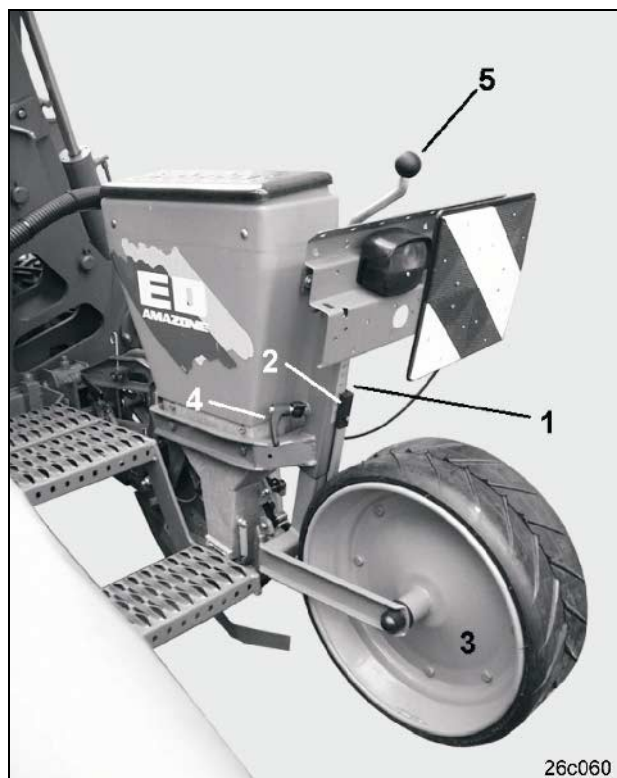

Fig. 72
The figures (0 to 110) on the scale (Fig. 72/1) represent the relevant placement depth. The placement depth setting is read off the reading edge (Fig. 72/2).
The placement depth is set with the aid of the pressure roller(s) (Fig. 72/3) as follows:
- Slacken the fixing bolt (Fig. 72/4)
- Turn the placement depth setting spindle (Fig. 72/5) and set the desired placement depth
- Retighten fixing bolt (Fig. 72/4).